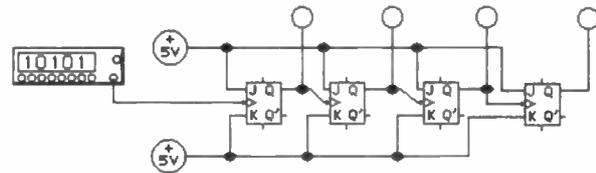
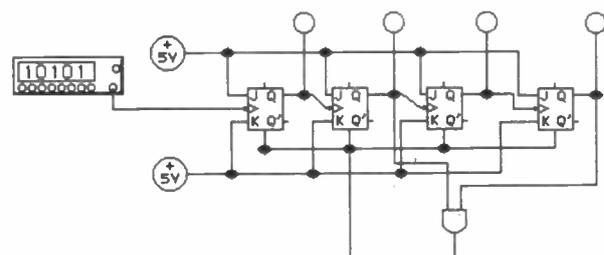

Fig. 8.22 Four-stage binary counter (see Assignment 8.2).
Fig. 8.23 Decade counter (see Assignment 8.2).
1. Connect the arrangement shown in Fig. 8.22. The clock input is derived from the Word Generator's clock
- Apply clock pulses to the circuit shown in Fig. 8.22 and observe the state of the Q outputs (you may find it useful to construct a timing diagram after each clock pulse is applied). Check that each stage divides by two (i.e., its output is at half the frequency of the preceding stage). Check that the complete arrangement requires 16 clock pulses in order to produce one output pulse cycle (i.e., check that the circuit divides by 2^4 or 16).
- Modify the arrangement shown in Fig. 8.22 by adding a two-input AND gate, as shown in Fig. 8.23. Note that the output of the AND gate drives the CLEAR inputs on all four J-K bistables.
- Apply clock pulses to the circuit shown in Fig. 8.23 and observe the state of the Q outputs (you may find it useful to construct a timing diagram after each clock pulse is applied). Check that the complete arrangement requires 10 clock pulses in order to produce one output pulse cycle (i.e., check that the circuit divides by 10).